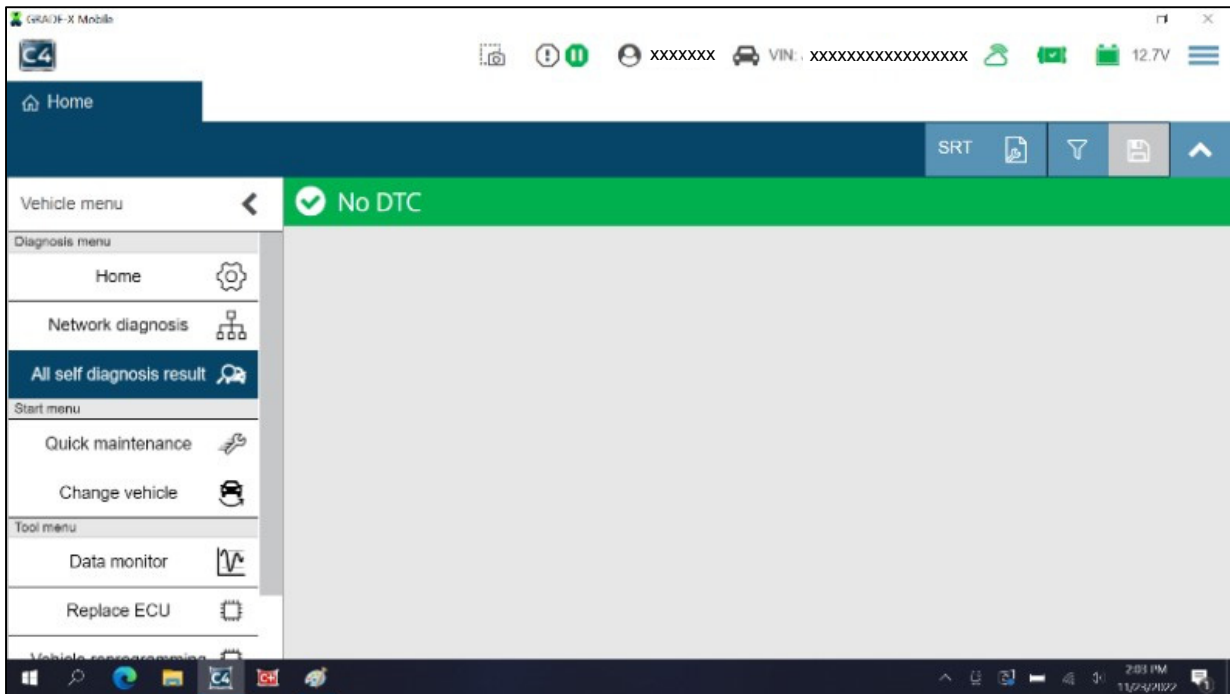

Figure 26
41. Close CONSULT-4 by selecting the X in the upper RH corner (Figure 26).
- a. Turn the vehicle OFF by depressing the power switch one (1) time.